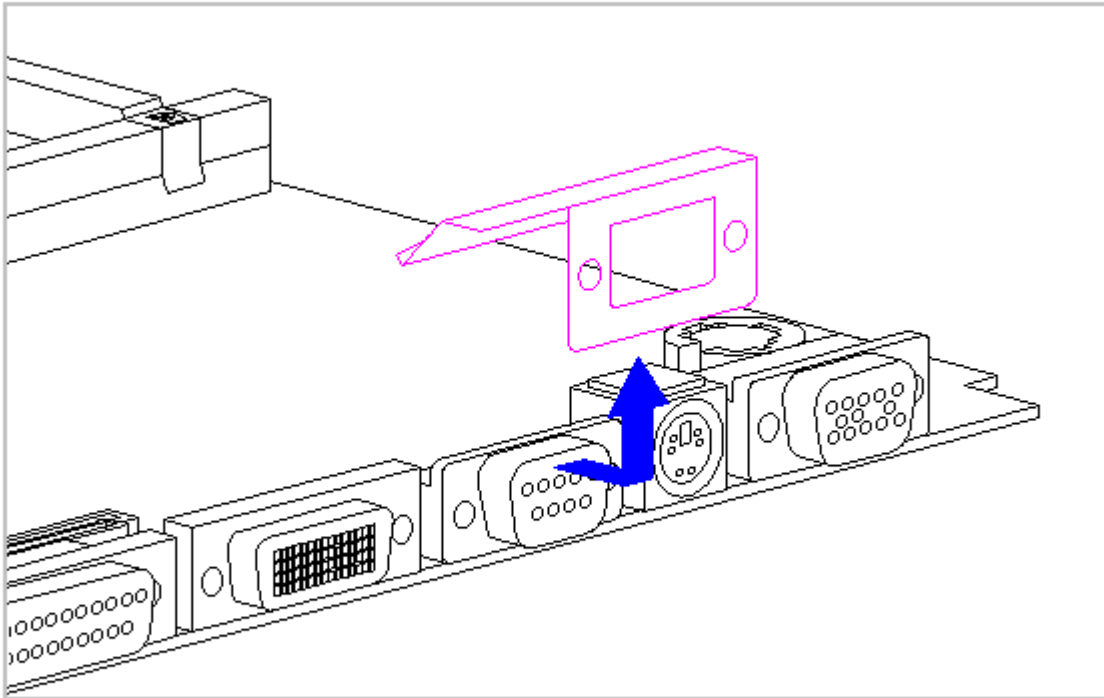

Figure 3-56. Removing the LIF Clip (All Models)
18. Remove the LIF clip from above the serial port connector between the system board and the system chassis (Figure 3-56).